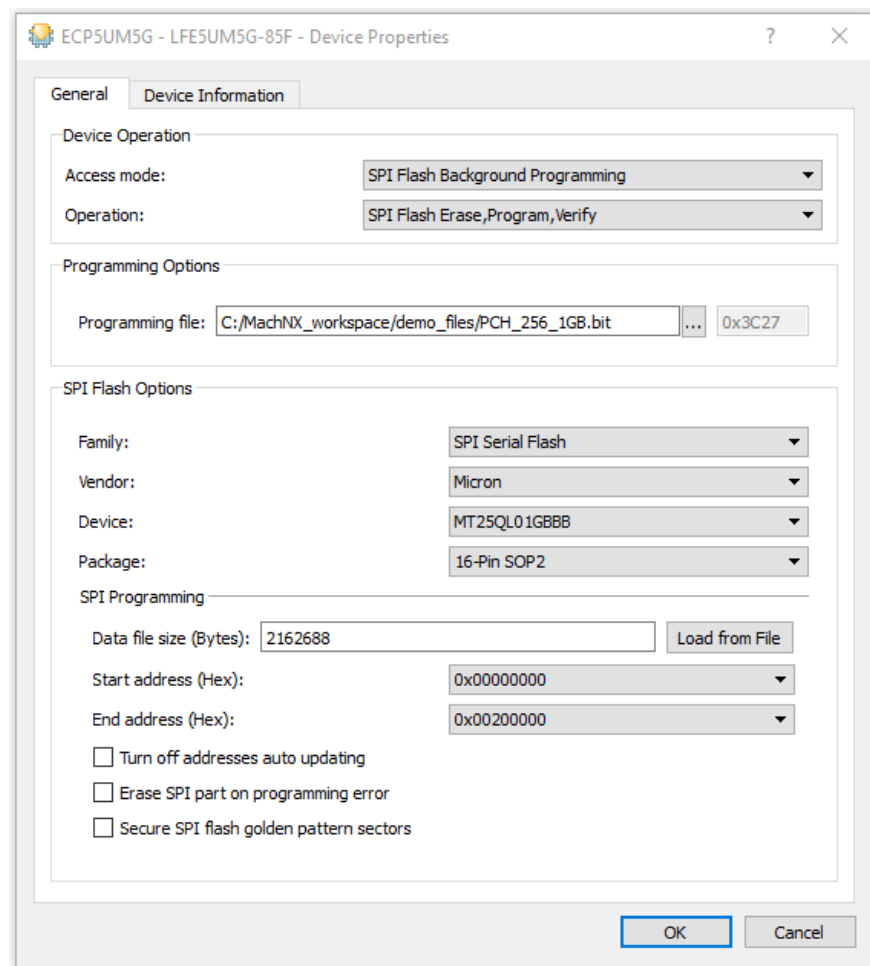

Figure 4.16. Device Properties for PCH
4. Double-click on the **Operation** field to open the **Device Properties** dialog box, as shown in Figure 4.16.